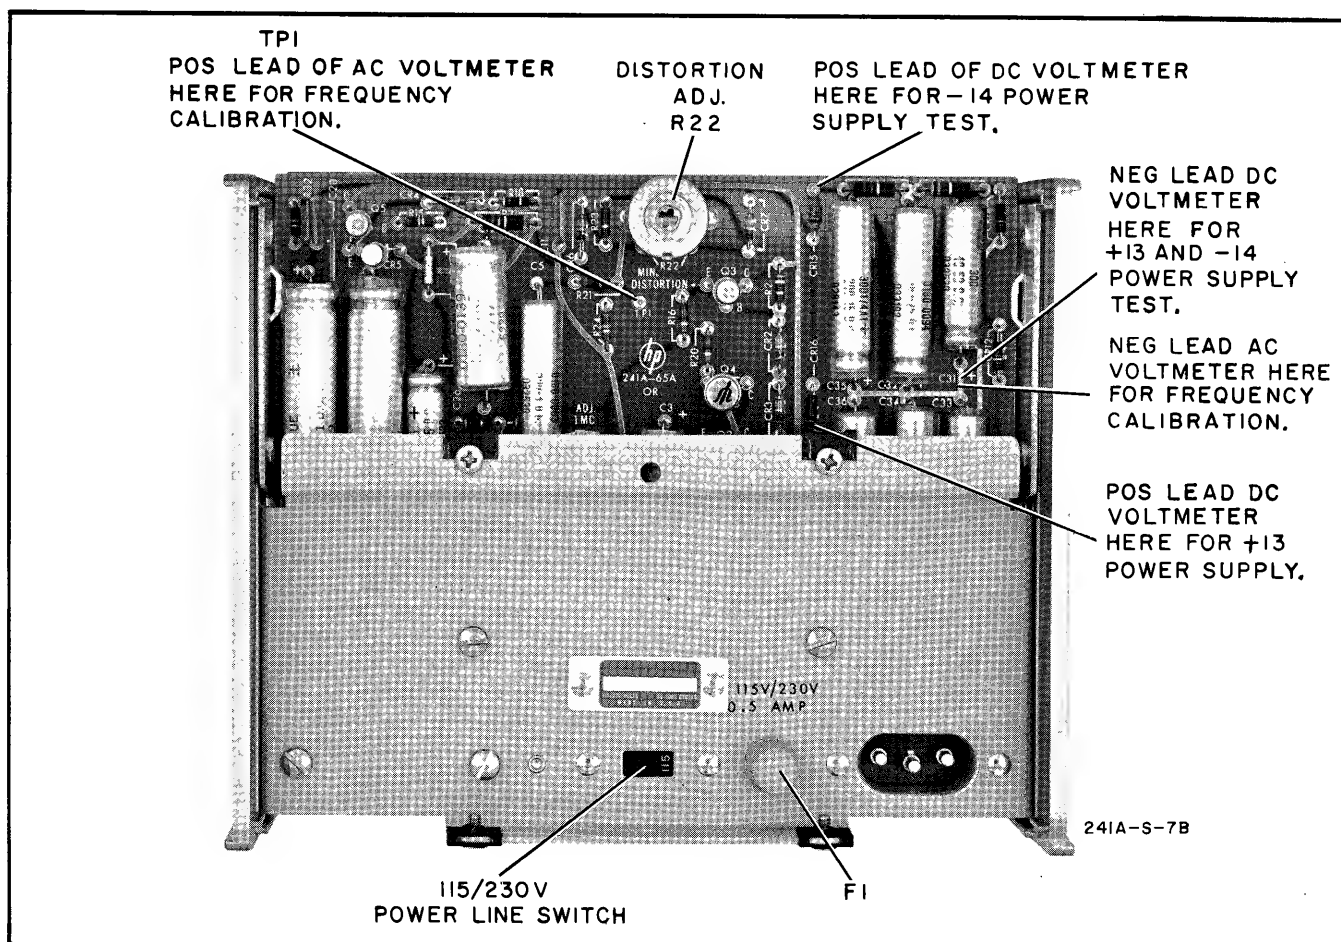

Figure 5-4. Rear View
- Measure +13 volt supply using a DC Voltmeter (hp Model 412A); connect the common lead to the junction of C31, C32, and C33 and the volts probe to the cathode of CR16. (Refer to Figure 5-4.)
- Connect common lead of DC Voltmeter to the junction of C33 and C34, Volts probe to the anode of CR15 (see Figure 5-4).
- Connect common lead of an AC Voltmeter (hp Model 400H) to the junction of C33 and C32, positive lead to Test Point TP1. (See Figure 5-4.)
- g. Adjust R22 (see Figure 5-4) for a minimum reading on the Distortion Analyzer.